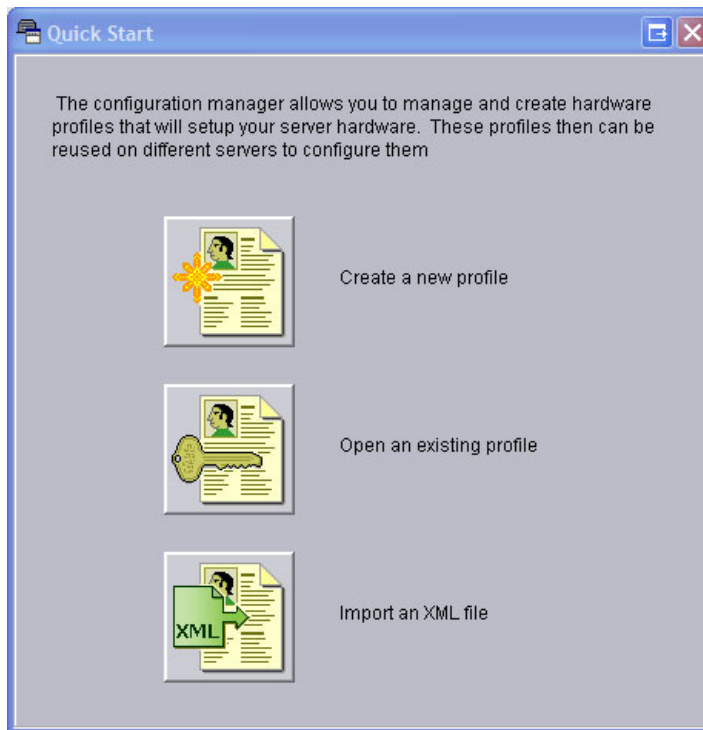

Figure 5-16 Server Configuration Manager: Quick Start menu
2. Click **Create a new profile**, as shown in Figure 5-16 on page 189. You can also edit an existing profile or import a profile from an XML file (which you probably based on an XML file you previously exported).